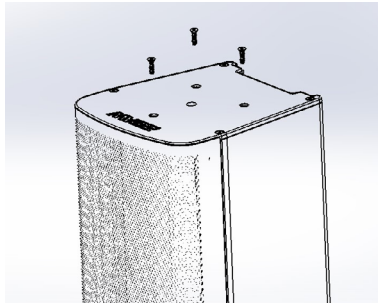

Figure 1 - Remove screws
1. Attach Locking Plate (A) to the top of the first AC6 (*If using with subwoofer mount plate, follow instructions in step 2 to attach slide plate to bottom of first AC6*)
- Remove 3x M5x12mm screws from top of AC6 (Figure 1).